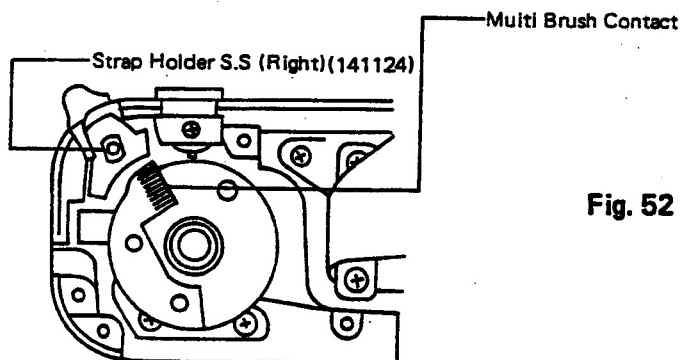
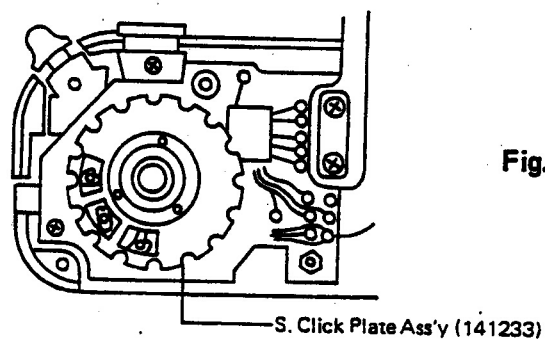

Fig. 52
Fig. 53
- a) Insert and position the multi brush contact of S. Contact Plate Ass'y opposite to the Strap Holder S.S. (Right) as shown in (fig. 52) and the S. Click Plate Ass'y as shown in (fig. 53) for "Auto" mode setting.